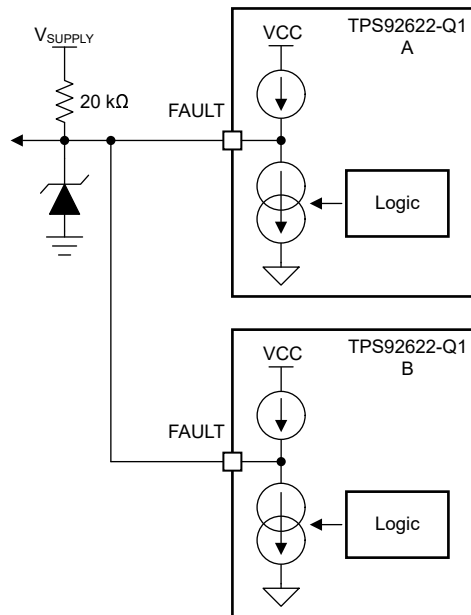
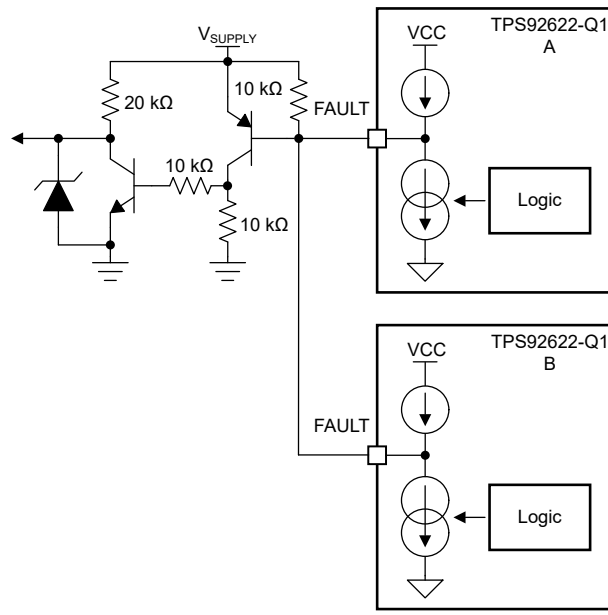

Figure 7-6. FAULT Bus for One-Fails-All-Fail Application
Figure 7-7. FAULT Bus for One-Fails-Others-On Application
Based on this feature, the TPS92622-Q1 device is able to construct a FAULT bus by tying $\overline{\text{FAULT}}$ pins from multiple TPS92622-Q1 devices to achieve one-fails-all-fail function as Figure 7-6 showing. The lower side TPS92622-Q1 (B) detects any kind of LED fault and pulls low the $\overline{\text{FAULT}}$ pin. The low voltage on $\overline{\text{FAULT}}$ pin is detected by upper side TPS92622-Q1 (A) because the $\overline{\text{FAULT}}$ pins are connected of two devices. The upper side TPS92622-Q1 (A) turns off all output current for each channel as a result. If the $\overline{\text{FAULT}}$ pins of each TPS92622-Q1 are all connected to drive the base of an external PNP transistor as illustrated in Figure 7-7, the one-fails-all-fail function is disabled and only the faulty channel device is turned off.